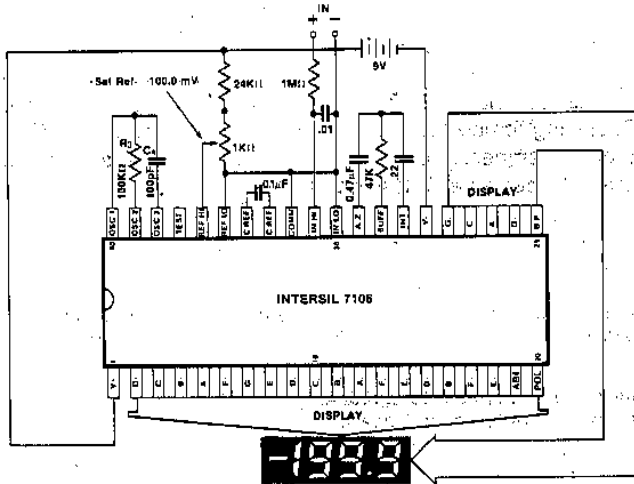
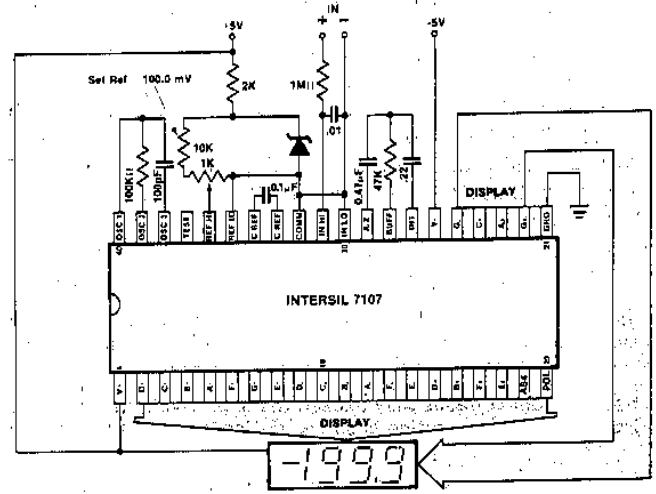

Figure 1: 7106
Figure 2: 7107
**Note 3:** Unless otherwise noted, specifications apply to both the 7106 and 7107 at TA = 25°C, fclock = 48kHz. 7106 is tested in the circuit of Figure 1. 7107 is tested in the circuit of Figure 2.